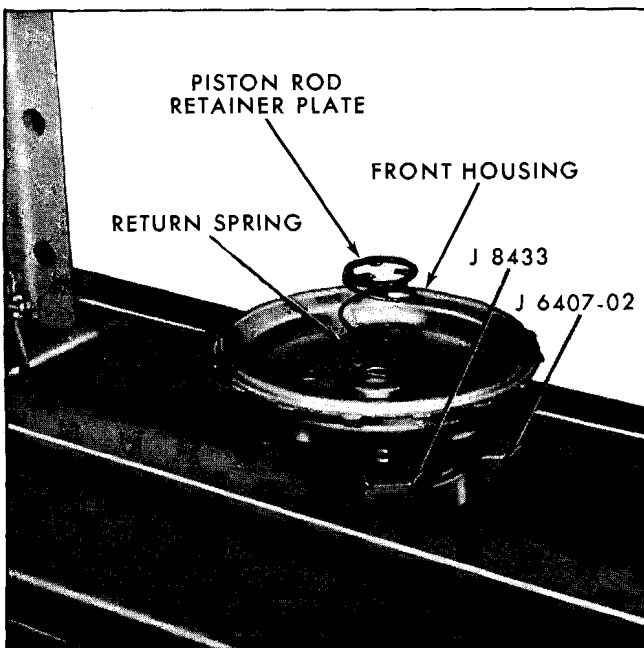

Fig. 5D-19 Securing Front Housing to Arbor Press
NOTE: *Special Tool BT 7004 or J 23456 (Fig. 5D-7) may be used for housing assembly as an alternate to the following method.*
1. Secure power section front housing to tools J 8433 and J 6407-02 as shown in Fig. 5D-19.
2. Secure front housing to arbor press (Fig. 5D-19).